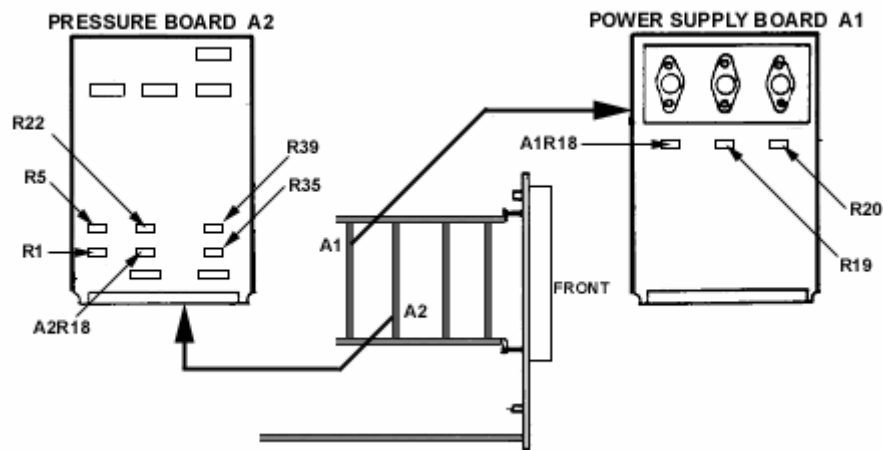

Figure 4. Simulator unit - internal left view.
(1) Set autotransformer and dc power supply to **OFF**, and calibrator to **STBY**.
(2) Remove pressure board A2 (fig. 4) and reinstall, using extender board.
(3) Set autotransformer, dc power supply, and calibrator power to **ON**.
(4) Adjust R5 (fig. 4) for a 3.591 V ac indication on multimeter (R).
(5) Turn **ENGINE OIL PRESS NO. 1** variable control fully ccw.
(6) Adjust R1 (fig. 4) for a 3.591 V ac indication on multimeter (R).
(7) Adjust R22 (fig. 4) for a 3.591 V ac indication on multimeter (R).
(8) Turn **ENGINE OIL PRESS NO. 2** variable control fully ccw.
(9) Adjust A2R18 (fig. 4) for a 3.591V ac indication on multimeter (R).
(4) Adjust R39 (fig. 4) for a 3.591-V ac indication on multimeter (R).
(5) Turn **XMSN OIL PRESS** variable control fully ccw.
(6) Adjust R35 (fig. 4) for a 3.591 V ac indication on multimeter (R).
(7) Repeat **a** (2) through (6) above and adjust for best in-tolerance condition.